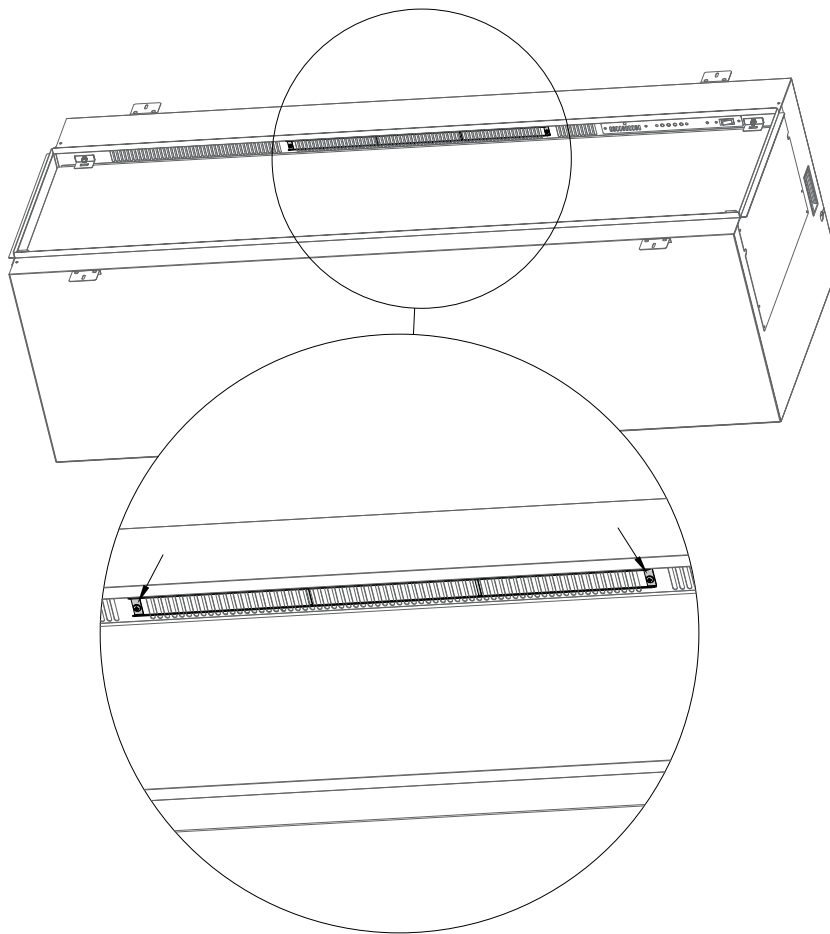

Figure 2.9 - Remove existing heater air deflector bracket
1. Locate the (2) Phillips screws shown in Figure 2.9. The screws will be located above the viewing glass area. Note: each fireplace might look slightly different than shown. Remove the heater air deflector bracket. Discard the bracket but save the screws.